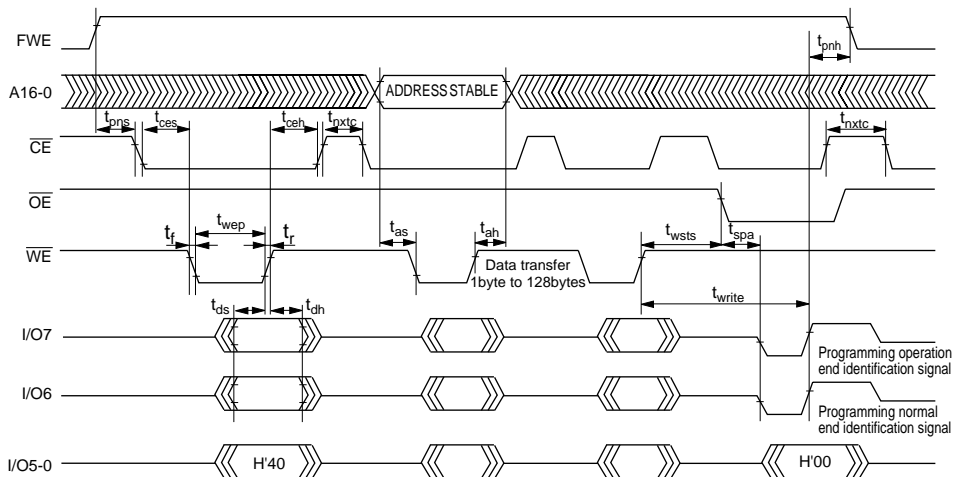

Figure 15-20 Auto-Program Mode Timing Waveforms
- Memory address transfer is performed in the second cycle (figure 15-20). Do not perform transfer after the second cycle.